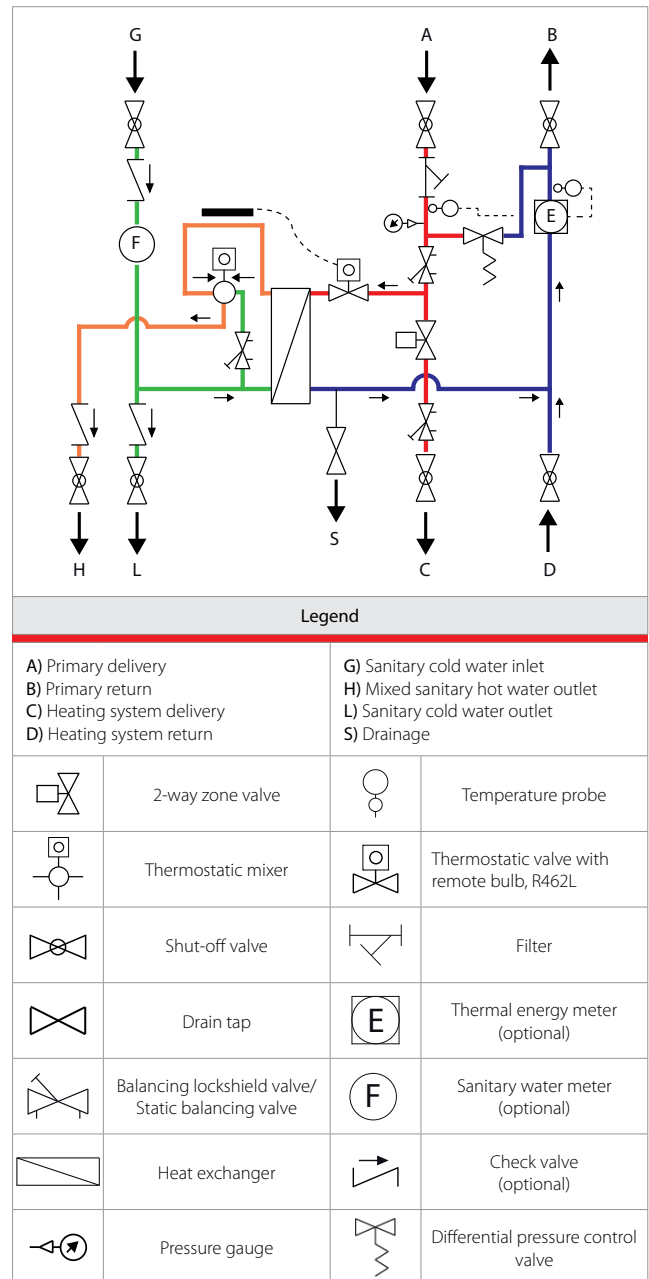

Figure 3 – Operating flow
- If there is no sanitary water meter, the sanitary cold water inlet in the satellite can be set from below (inlet L in figure 3, with the connection G closed and no check valve).
The operating flow is shown in figure 3.
The R189VY004 sanitary water check valve is integrated in a nipple (R189V series). To install the check valve on the satellite, replace the original nipple A and/or B and/or C (figure 15) with the R189VY004 nipple fitted with a check valve. Be sure to respect the flow directions (the flows are from the top downwards - see figure 3).